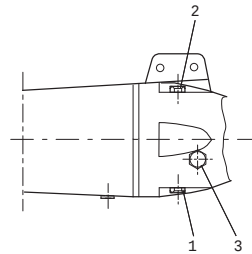

Fig. 32 Oil check and oil filling
If required, fill oil into the gearbox/shaft seal housing through the oil filling hole (pos. 2). See fig. 32. For oil quality and quantity, see section 9.4.1 Oil quality, gearbox and shaft seal housing.